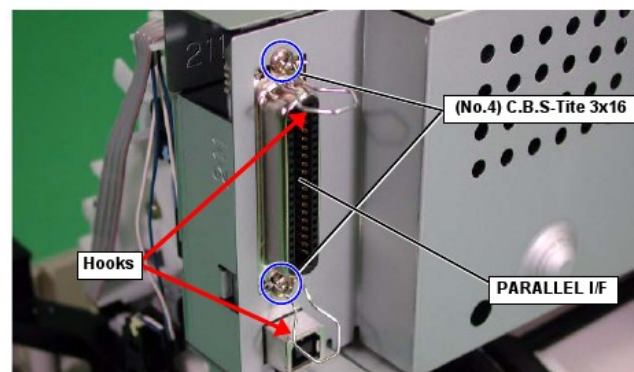

Figure 4-17. SHIELD PLATE, COVER Removal 2
- When removing the SHIELD PLATE, COVER, be careful of interference from the PARALLEL I/F cable securing hooks. (Refer to Figure 4-17, "SHIELD PLATE, COVER Removal 2".)
- When reassembling the SHIELD PLATE, COVER, be careful of interference from the PARALLEL I/F cable securing hooks. (Refer to Figure 4-17, "SHIELD PLATE, COVER Removal 2".)